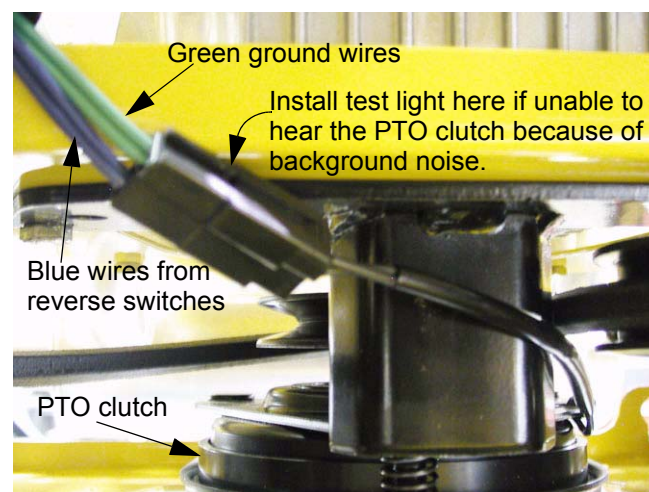

Figure 9.9
- 9.9. If shop noise prevents the technician from clearly identifying the "click" from the electric PTO clutch, a 12V test light may be installed in the lead that connects to the PTO clutch. See Figure 9.9.